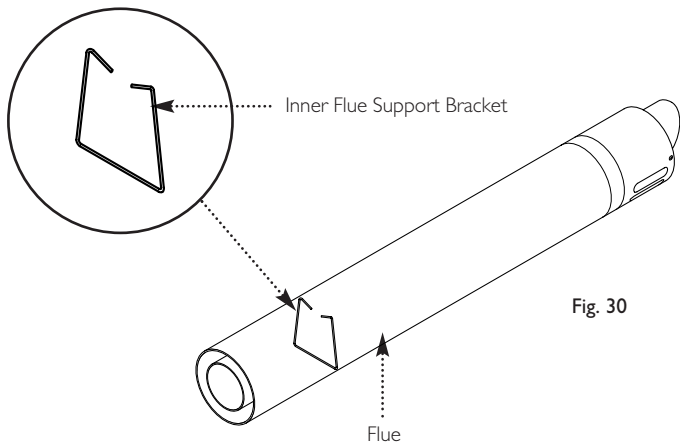

Fig. 30
6. Ensure the inner flue support bracket is positioned in the flue (Fig. 30).